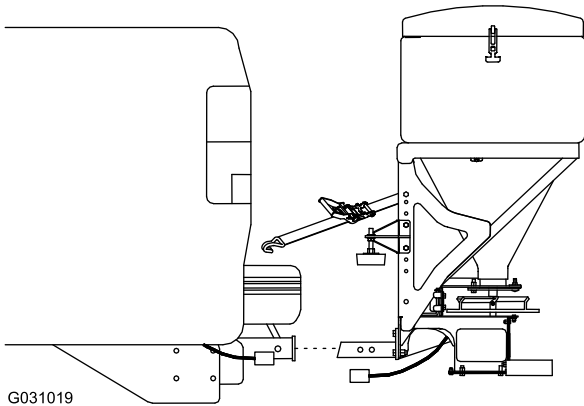

Figure 16
5. Slide the spreader out of the receiver hitch of your vehicle (Figure 16).